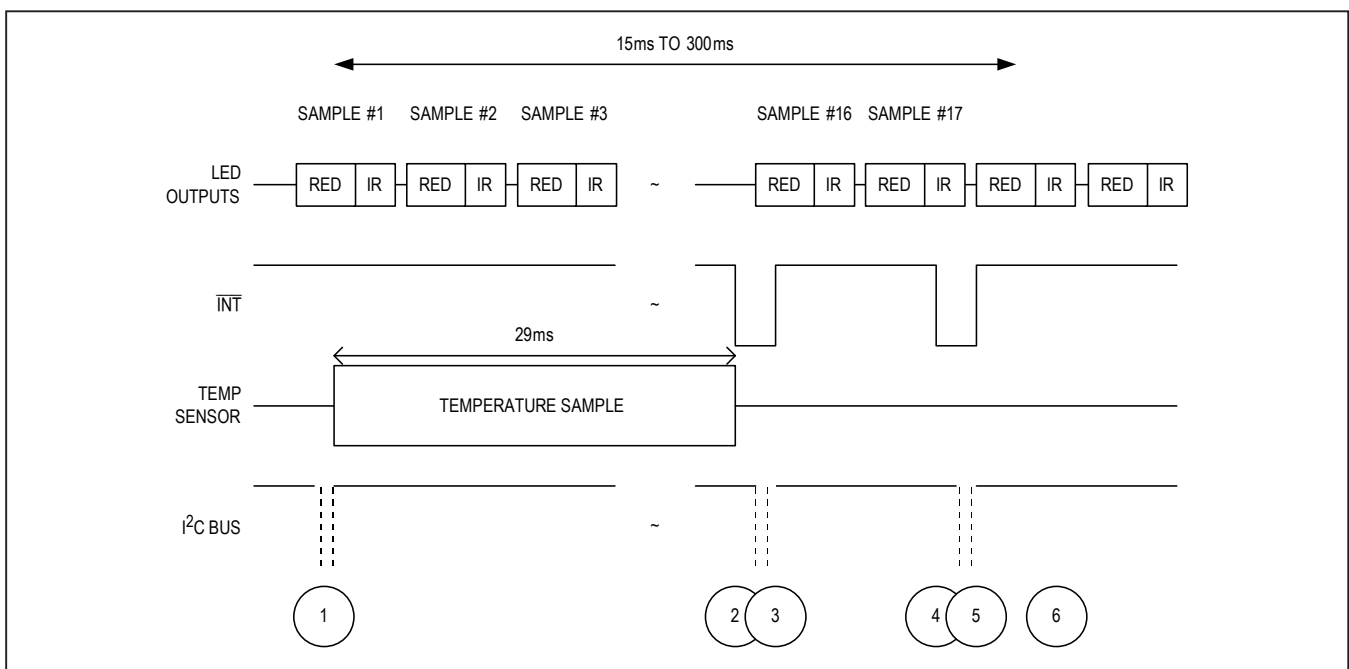

Figure 4. Timing for Data Acquisition and Communication When in SpO2 Mode
**Table 15. Events Sequence for Figure 4 in SpO2 Mode**